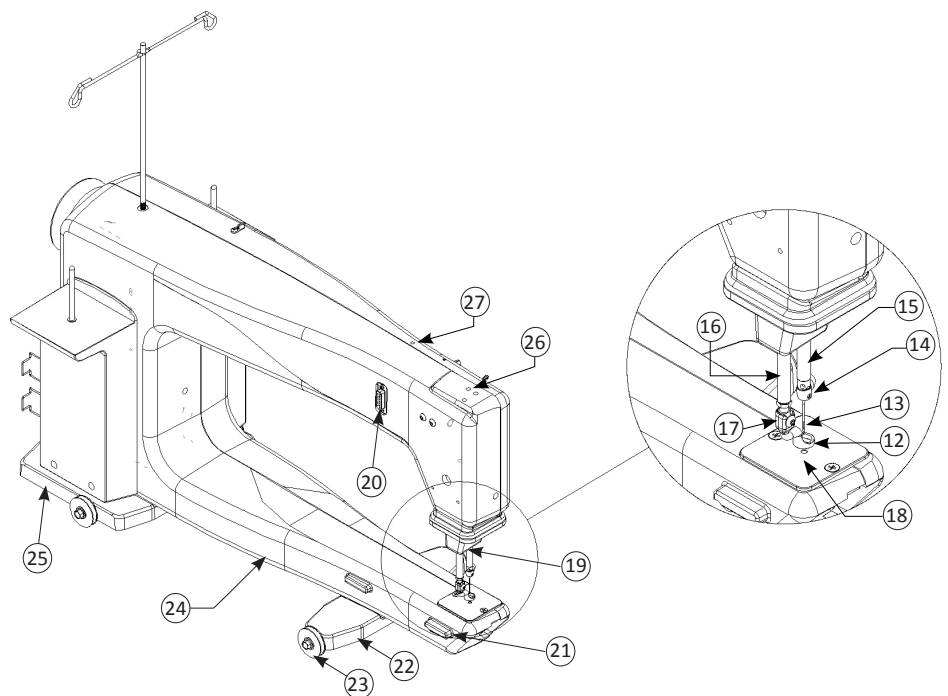

Figure 2
Once the bolts are in place, plug the 9-pin connector into the serial port located on the left-hand side of the machine (see Figure 2, #18, page 6). Ensure the pins are lined up so they are not damaged when the plug is pushed in. Push the plug securely in place.
1. Locate the threaded hole on top of the machine near the front (see Figure 2, #20, page 6). The laser stylus guide post comes with the washer and nut